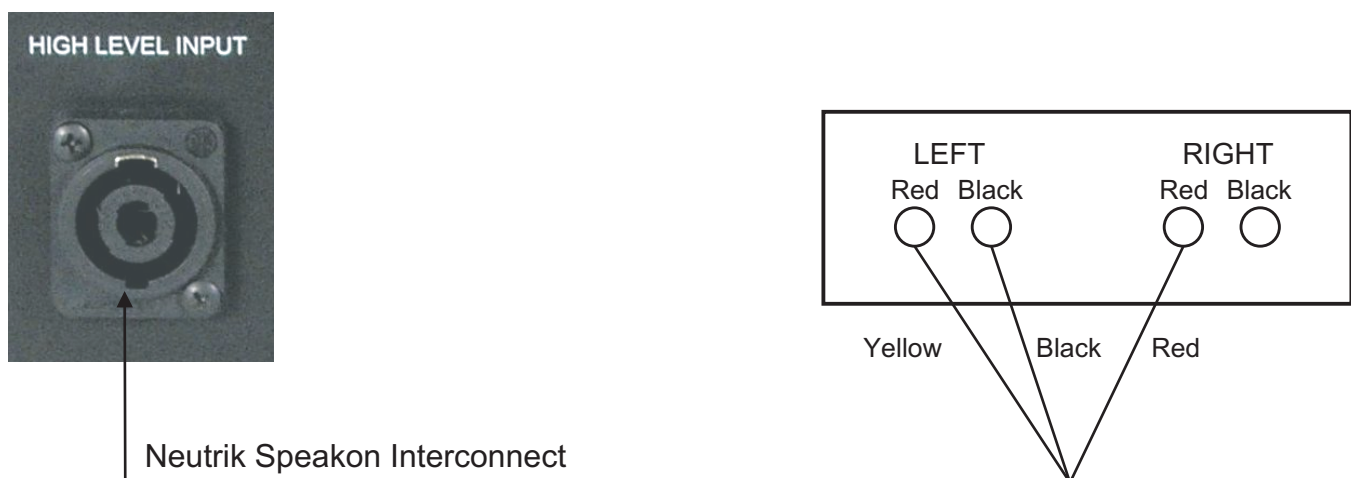
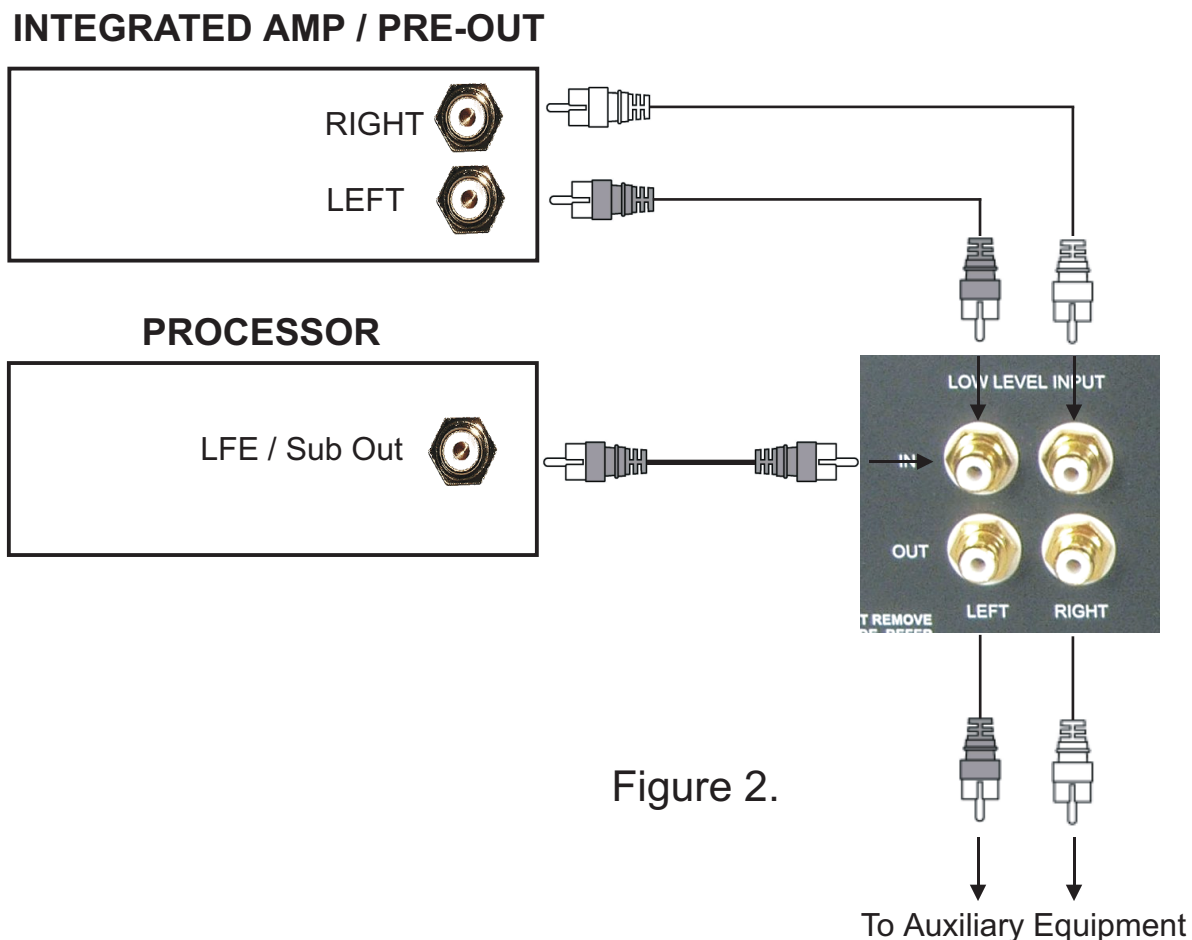

Figure 1.
Figure 2.
Figure 1. Shows a diagram on how to connect the high level input. Using the optional Neutik lead, connect the SA300 to the output of your amplifier via your existing speaker plug or to a spare set of speaker terminals if available. In effect you are Bi-Wiring your SA300 to your power amp. Please note that the Neutrik cable has only three leads and is arranged this way to preserve the star earthing of your amplifier (assuming it has a star earth arrangement).
Figure 2. Shows a diagram on how to connect the low level input. Using the supplied RCA to RCA interconnect, plug one end into the SA300 low level input and the other end into the dedicated sub output on your amplifier or processor. If a sub out is not available then you can use a spare set of pre-amp outputs.
- Connect your SA300 as shown in Figure 1 or Figure 2. Then attach your subwoofer to the power supply using the power cable supplied, at this point have the power switch in the off position.